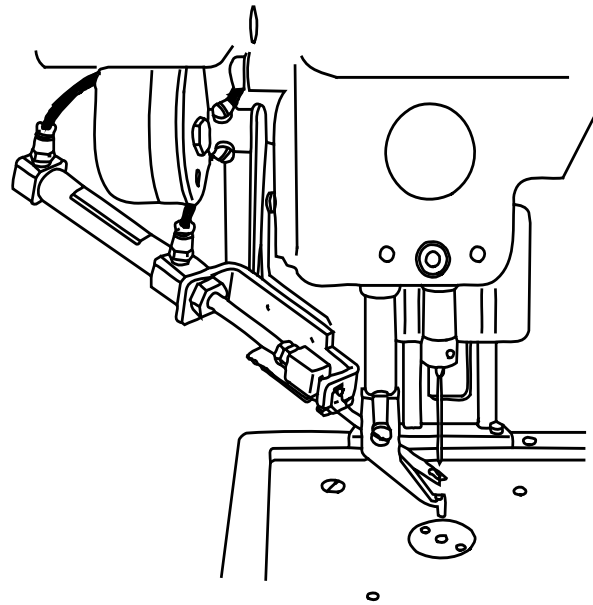

Fig.1
- (2) Remove the wiper mechanism from the machine arm. Is not only part of the wiper drive, please remove the connection wires from the sewing machine.
- (3) Attach the upper thread holding mechanism to the machine arm. Please adjust the position of the upper thread holding mechanism so that the thread distributor Fig.No.106 scoop a thread between the presser foot and the needle, as shown in Figure 1.